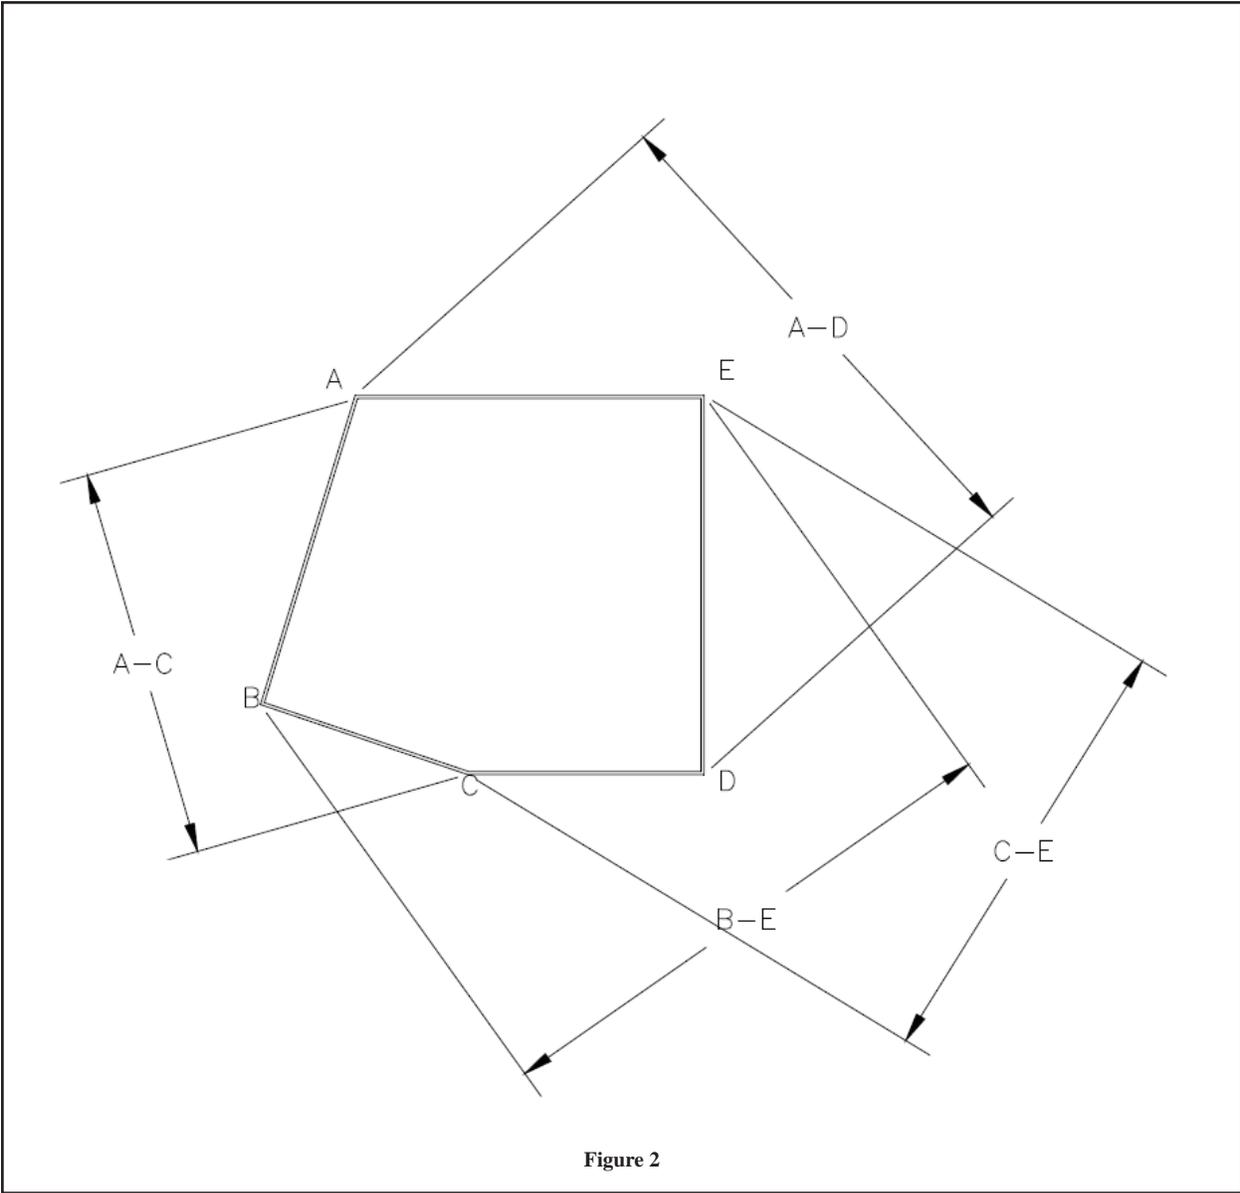

Figure 2
- A.** To ensure a proper fit of the recessed mat, measure and confirm all dimension on the approved shop drawings before putting bracing (wood) or any support in place. It is very important that the diagonal dimensions are also measured and confirmed (see Figure 2). Failure to use wood bracing in the frame during installation may result in improper fit of the mat assembly in the frame. This would include the inability of the mat to lie flat when it is placed in the frame. See Figure 3 for the recommended placement of the wood bracing.